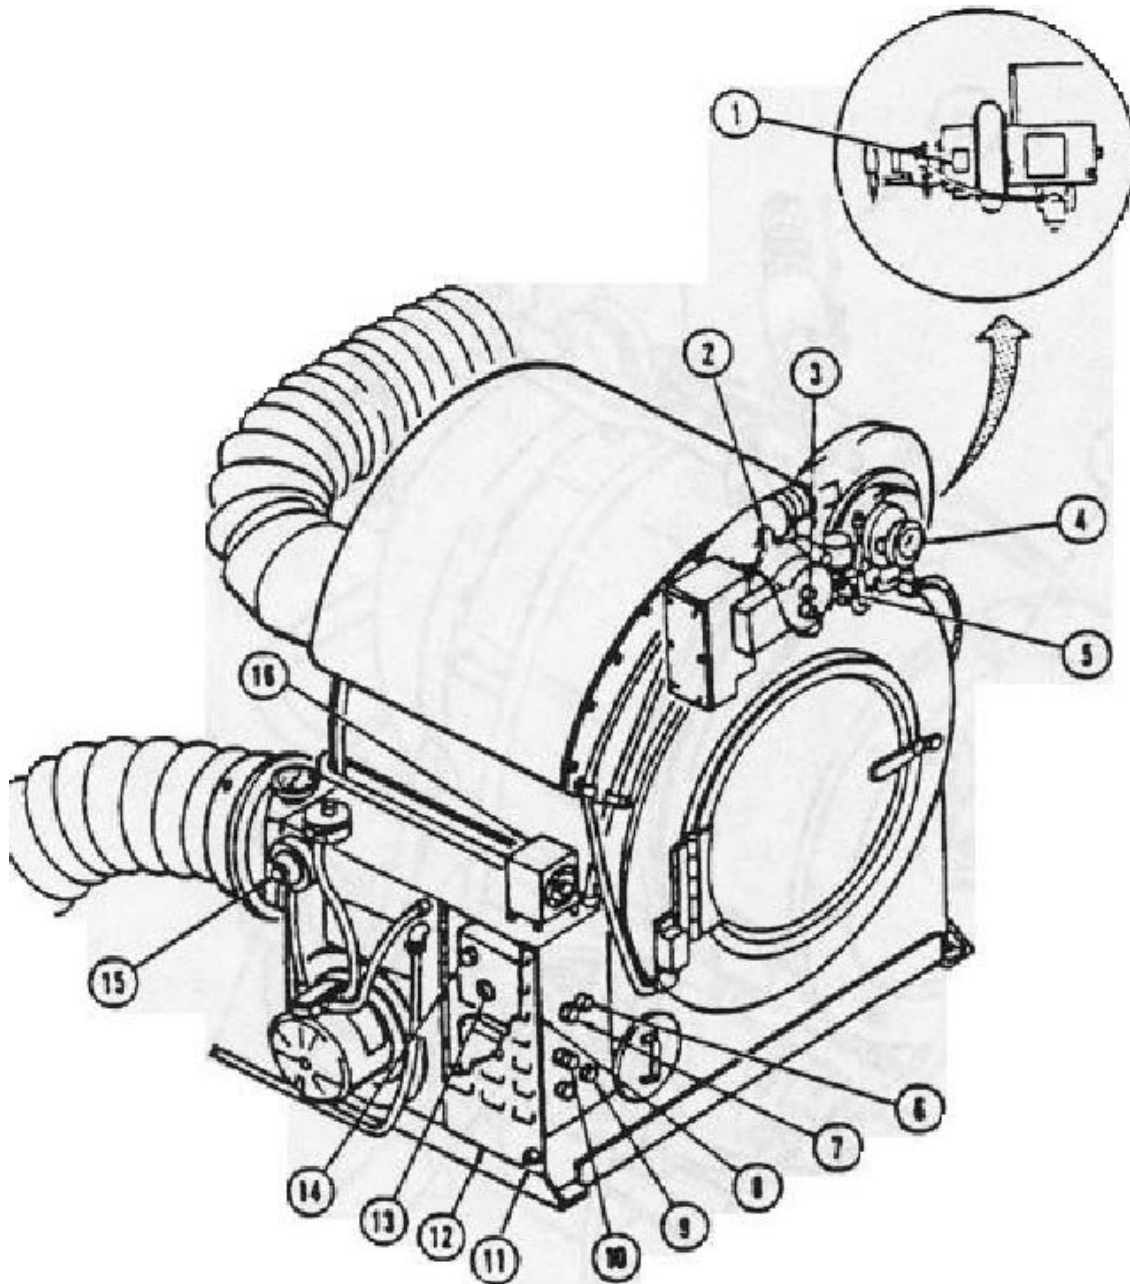

Figure 3-27
- l. Close vent valve (12).
- m. Ensure thermal switch is set at 160 degrees F (3).
16. Inspect dryer tumbler (See Figure 3-27).